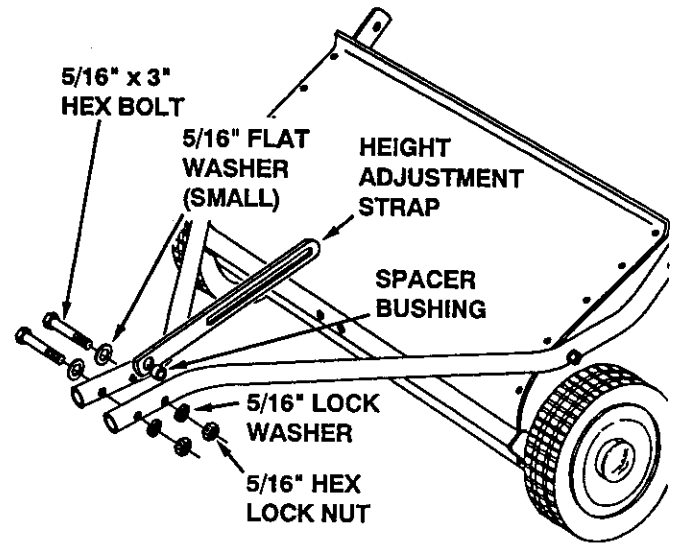

FIGURE 2
- Place the spacer bushing into the hole in the height adjustment strap. Place the strap with the bushing between the hitch tubes, aligned with the rear hole. Fasten the hitch tubes together, with the strap and bushing between them, using two 5/16" x 3" hex bolts, 5/16" flat washers (smaller), 5/16" lock washers and 5/16" hex lock nuts. **Do not tighten yet.** See figure 2.